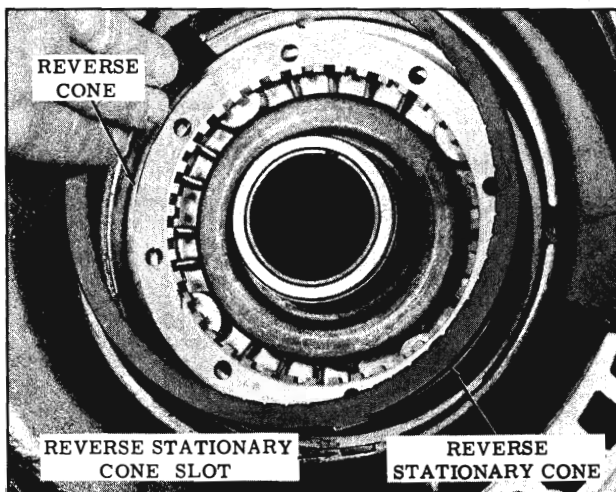

Fig. 3-292 Installing Reverse Cone
6. Install the reverse stationary cone into case. (Fig. 3-292)